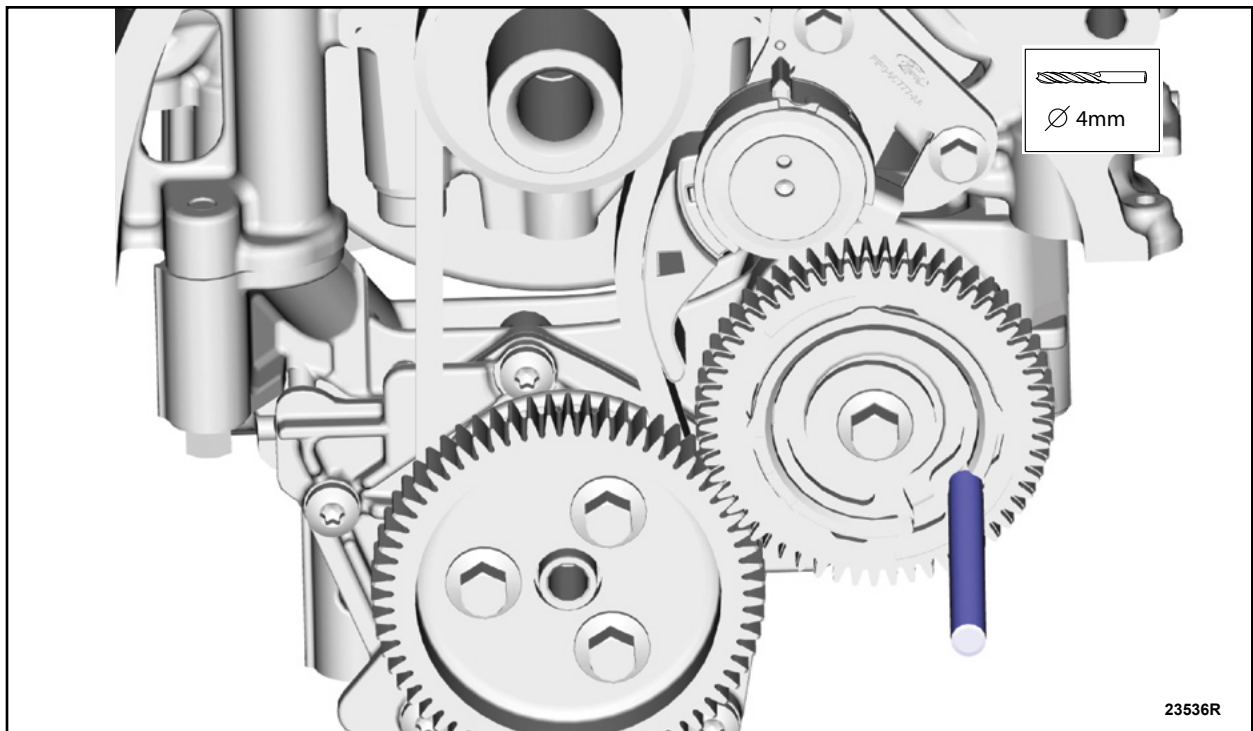

FIGURE 26
33. Remove the 4 mm drill bit from the balance shaft gear. See Figure 26.